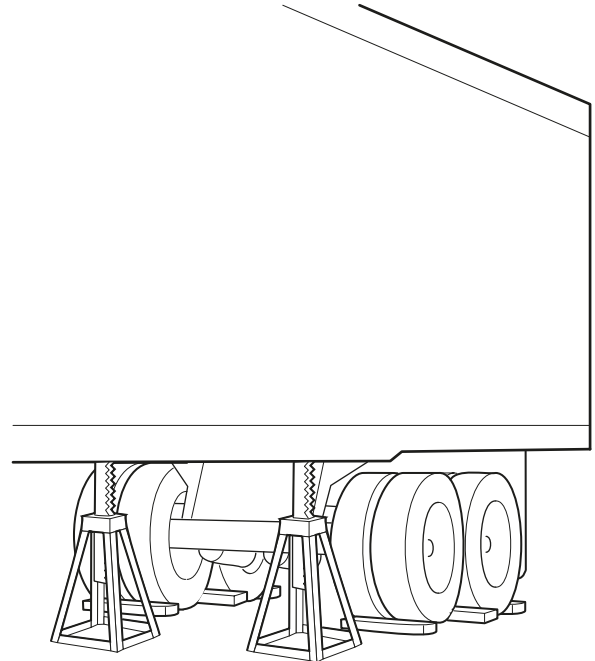

Figure 2: Trailer Preparation
7. Support the raised trailer with suitable load-rated safety stands. Refer Figure 2.